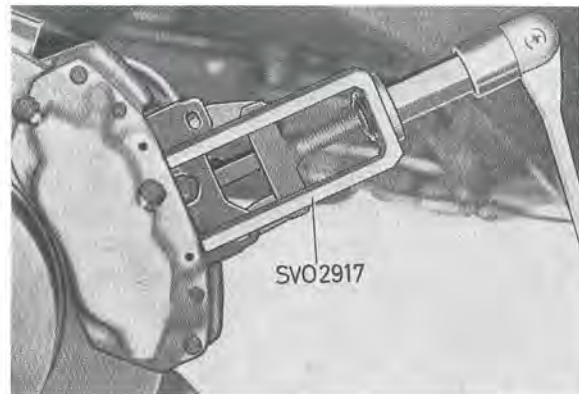

Fig. 5-15. Removing brake pads
4. Pull out the pads with tool 2917, see Fig. 5-15. If the used pads are to be re-fitted, mark them to ensure they are restored to their original position.